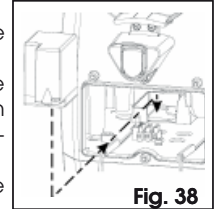

Fig. 38
2. Position the batter kit on the left of the transformer, see Fig.38.